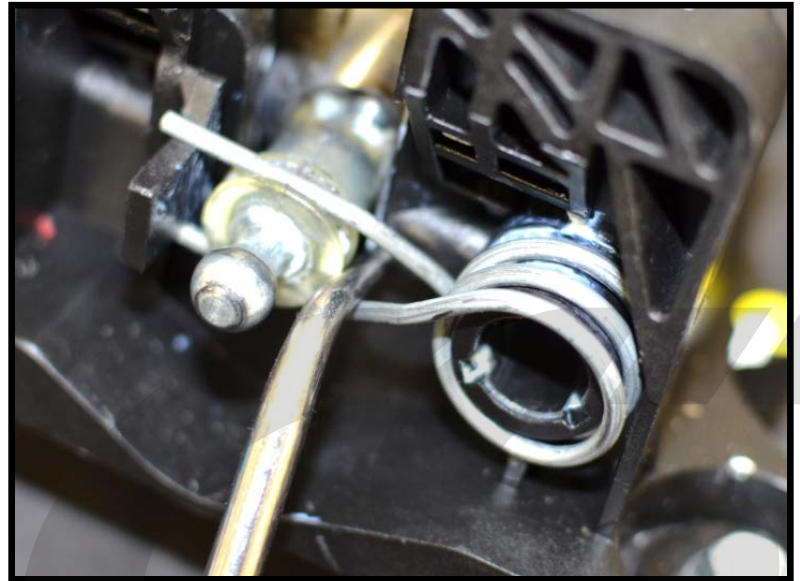

Figure 4d
d) **Remove the side action spring.** Use a large pick or screwdriver to remove the spring (Figure 4d).